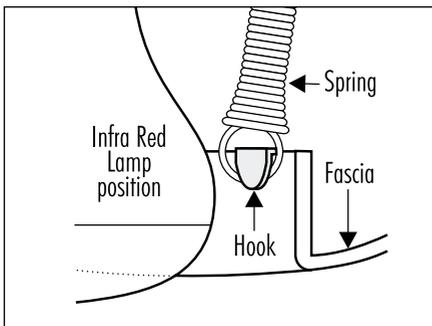

Fig. 11 – 11303, 11311, 11312, 11317 and 11332
1. Models 11303, 11311, 11312, 11317 and 11332 fit fascia into position and hook coil-spring onto fascia as per Fig. 11. Models 12301 and 12303 have snap fit fascia, however the lamps and centre globe must be fitted in these models prior to the fascia. The legs of the lamp surround must rest freely on the ceiling. A clearance of approximately 3-5 mm should exist between the ceiling and outer rim of surround.